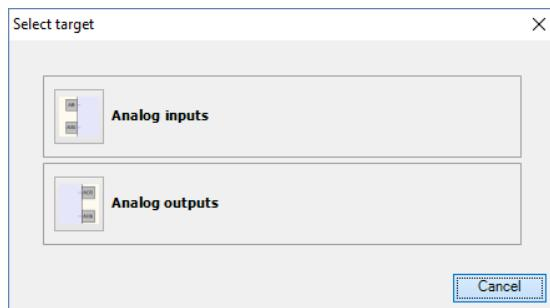

Fig. E.2
6. Select **Analog inputs** as calibration target (Fig. E.2).
- Select **Analog outputs** as calibration target (Fig. E.2).
6. Select **Analog outputs** as calibration target (Fig. E.2).